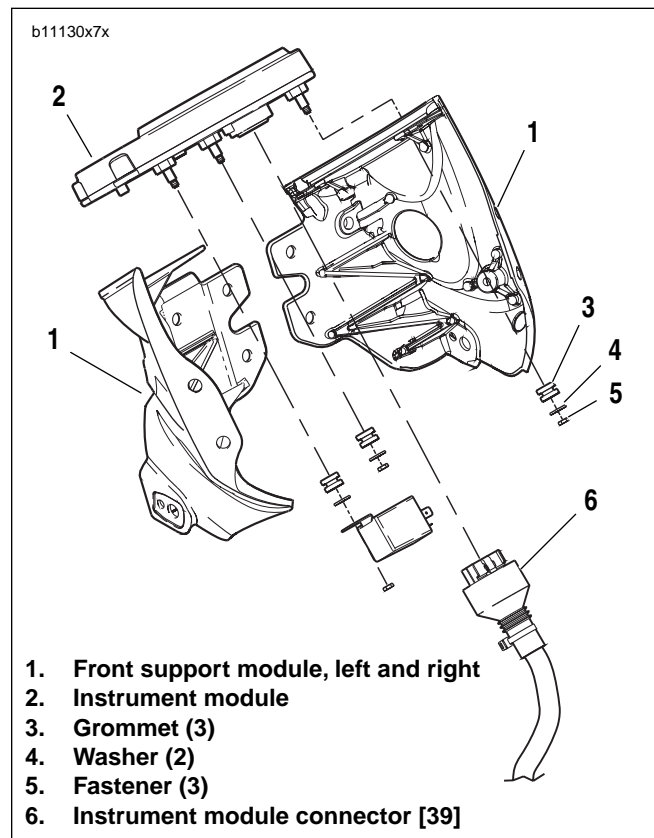

Figure 7-75. Instrument Module
5. See Figure 7-75. Remove fasteners (5) and washers (4).
6. Pull instrument module (2) from front support module (1).
1. See Figure 7-75. Place instrument module (2) into position in front support module (1).
2. Install washers (4) and fasteners (5). Tighten fasteners to 12-36 **in-lbs** (1.4-4.1 Nm).
3. See Figure 7-75. Connect instrument module connector [39].